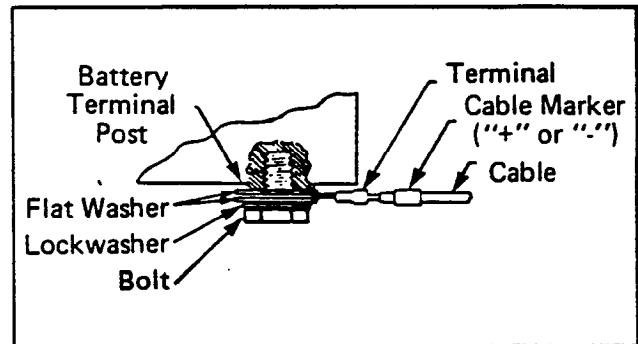

FIGURE 17
02.45 Connect the battery fuse (or circuit breaker) lead to the negative terminal on battery #1 (Figure 17).
02.47 Connect the positive wire to the positive terminal of battery #2 (see Figure 17).